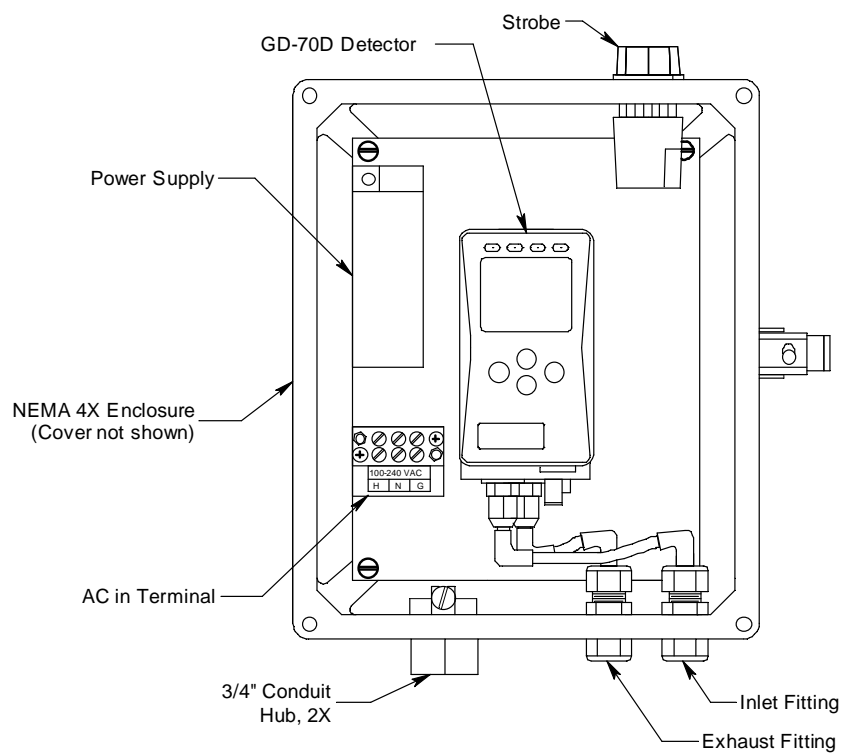

Figure 1: Component Location
- Use four 1/4" screws through the mounting feet to mount the GD-70D4XAC-XXS to a vertical surface. See Figure 1 for the mounting dimensions.